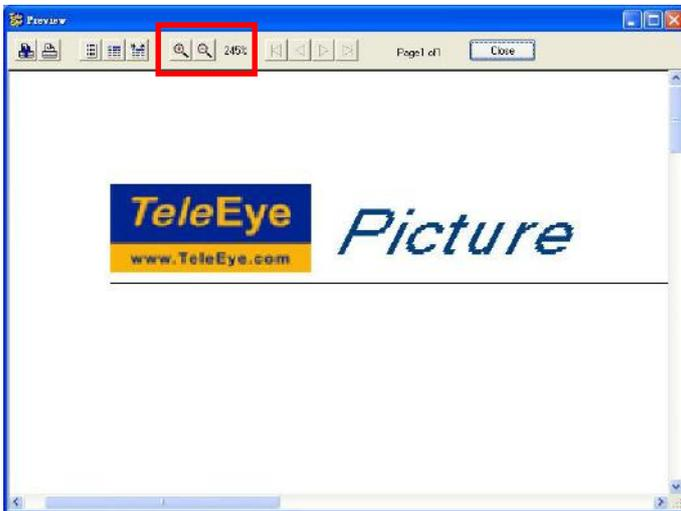

Fig 11.2g
Step 5: Click **[Zoom In]**  or **[Zoom Out]**  icon to preview the picture in higher or lower % picture size as shown in **Fig 11.2g**.